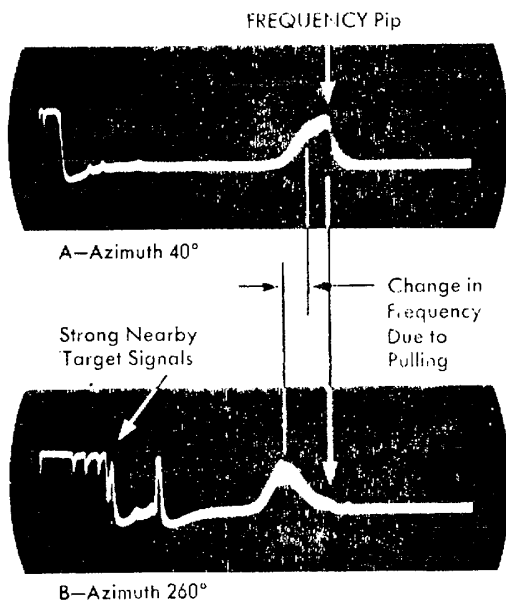

Figure 4-13. Checking Receiver Pulling and AFC Tracking
(1) Tune the test set to the receiver. (See par. 5b.)
(2) Turn the PHASE knoll clockwise to put the signal near the center of the screen. Broaden the signal by turning the SIGNAL WIDTH knob partly clockwise. Set the FREQUENCY meter so that the pip is on top of the curve.
(3) Start the radar antenna. If the FM signal moves on the scope (See figure 4-13), transmitter pulling is indicated. It may be caused by faulty housing, bad rotating joints, etc. If the signal remains stationary on the screen, the AFC is tracking all right.